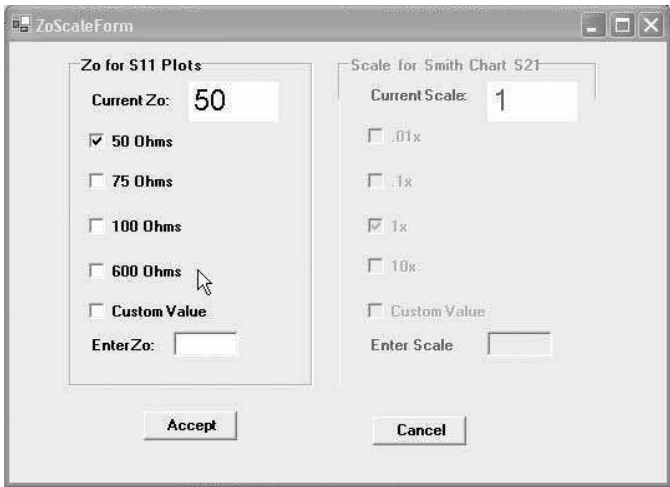

Figure 7-17
**Set Z0, Scale** – The Z0 Scale Form, Figure 7-17 permits setting the chart’s Z0 impedance and Scale. Click on a box to select a standard Z0 value or select “Custom Value” and type in the Z0 desired. Now perform the same for the S21 Scale. If you wish to save and use this setting repeatedly go to “Save Settings to Disk”
**S11 Z0 and S21 Scale Indicators** - The “S11 Z0” and “S21 Scale” are indicated in the boxes below their titles. To change these click the “Change Z0, Scale” button. This will call the “ZoScaleForm” Figure 7-17, covered earlier in this section.